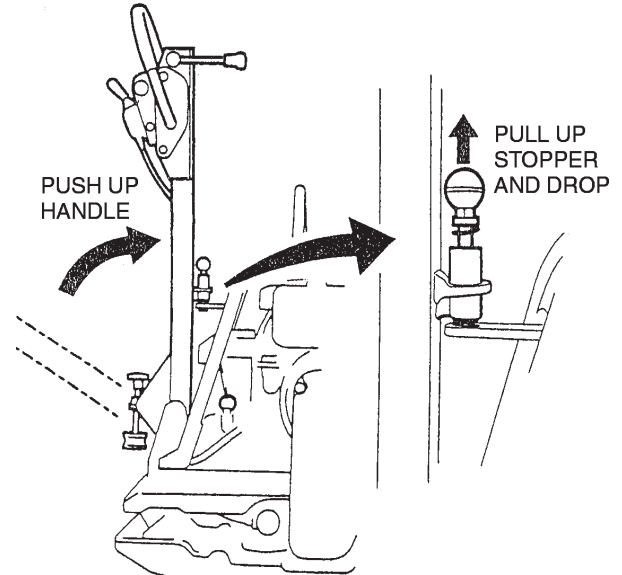

Figure 18. Stowing the Handle
- Push up the handle (Figure 18).